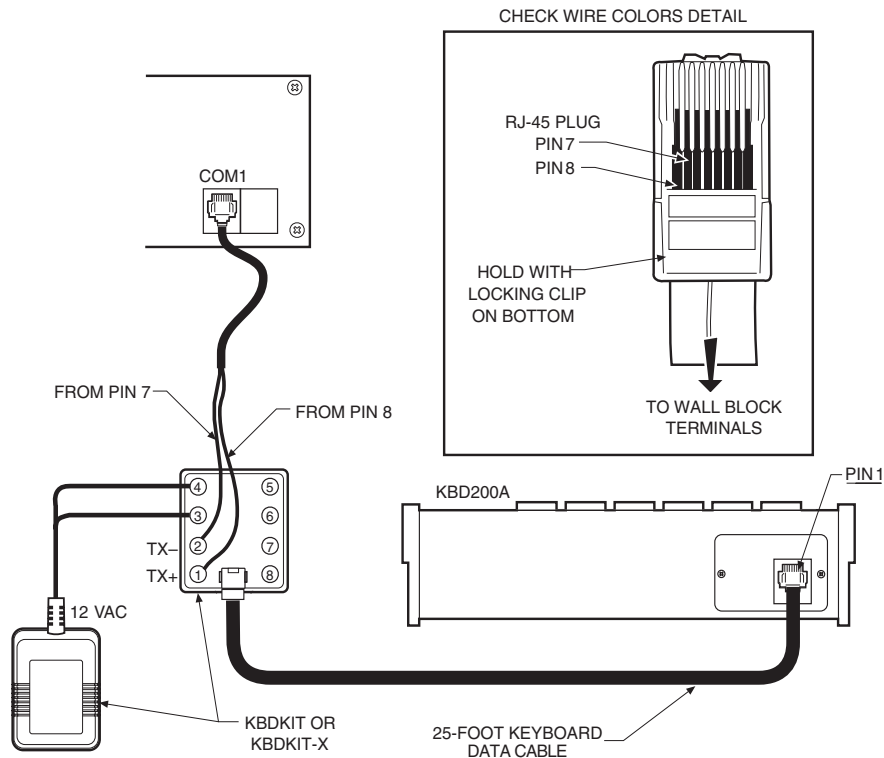

Figure 8. CM9760-MDA Keyboard Wiring
Refer to Figure 8.
3. Hold up the end of the cable that has the RJ-45 plug still attached and examine the wire colors going to each pin. (Refer to the "check wire colors" detail in Figure 8.) Make note of the colors going to pins 7 and 8.